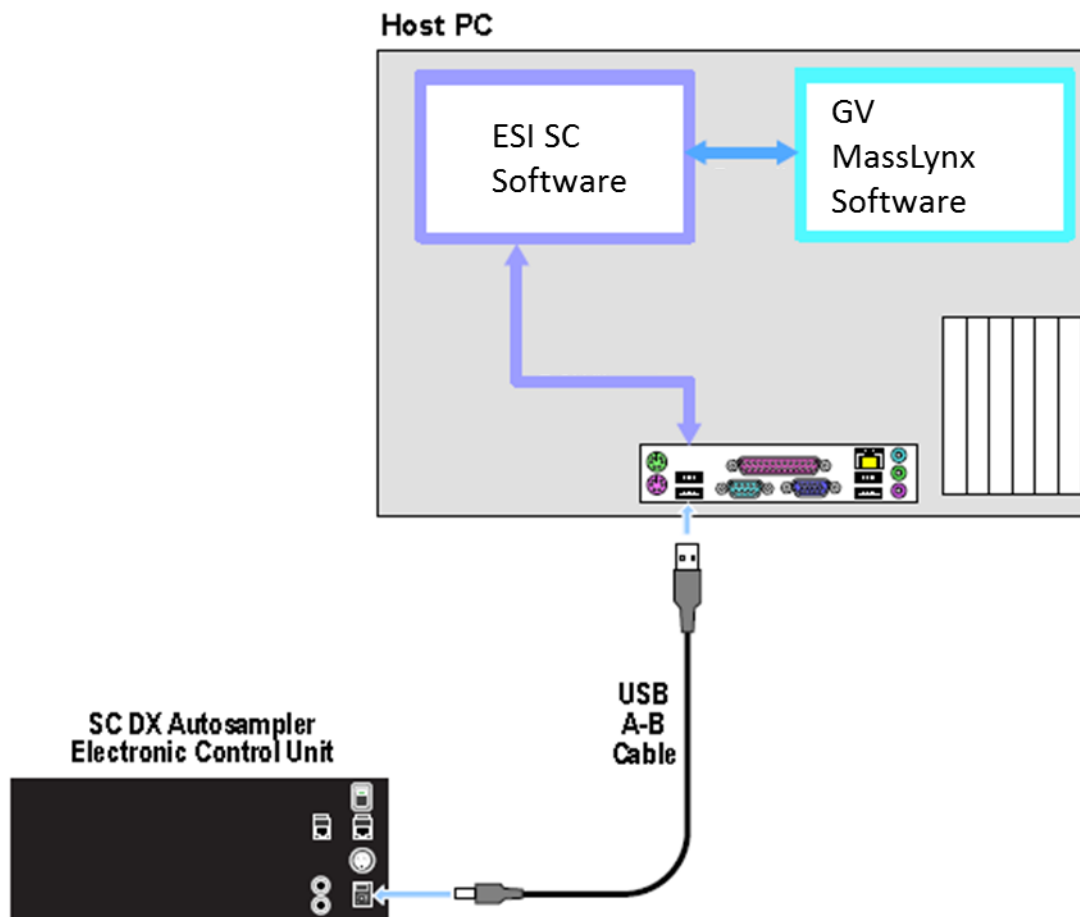

Figure 15: Connection options for GV and ESI SC with SC autosampler.
- 2) Connect the USB cable from the computer to the SC Autosampler. See Figure 15. Connect 24 VDC power to the SC Autosampler.